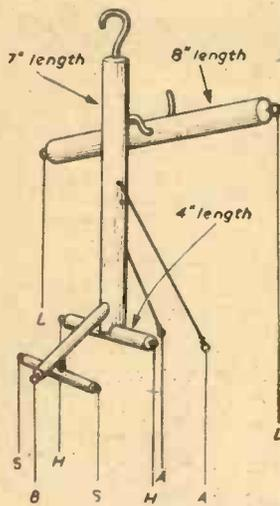

Fig. 4.—Construction of the control and string details.
A good perch is the "English Upright" (Fig. 4). This is constructed from scrap dowel roughly to the sizes given. The arm wires (A) are 3/32in. brass rod and are 6in. long. The head strings (H) must first be attached to screw eyes just above the puppet's ears. These are lengthened or shortened, according to the operator's height, to bring the control level with his chest when the puppet just touches the floor. No. 18 carpet thread is a very suitable medium for stringing.